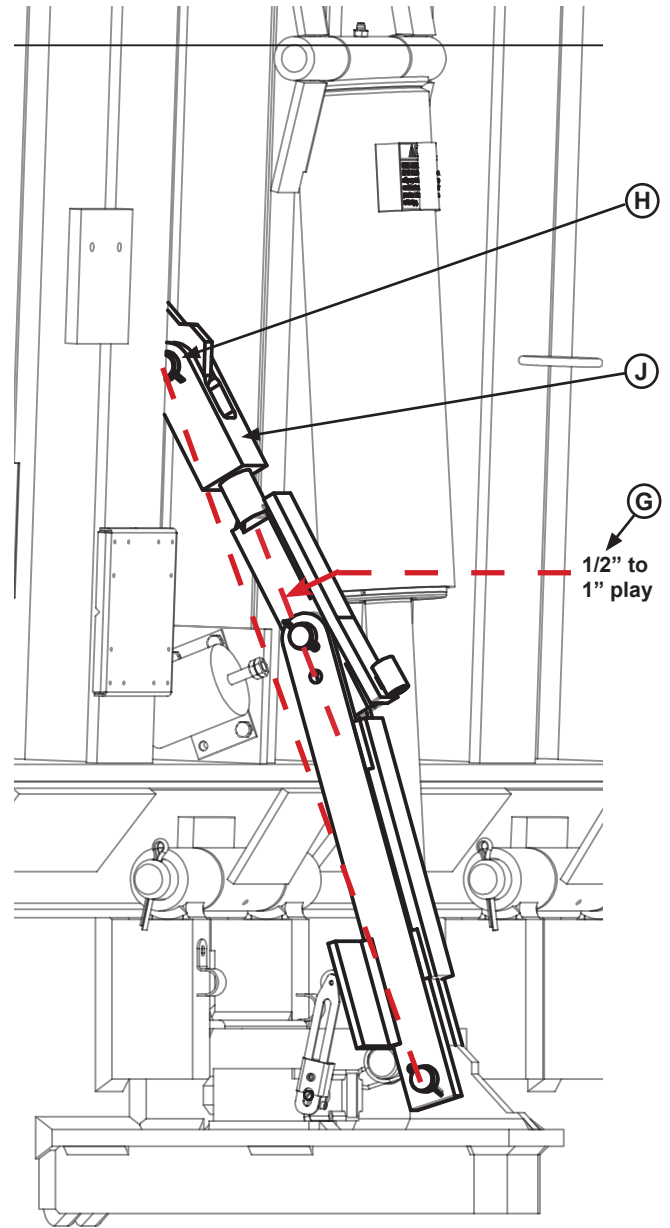

Figure 36
Note: When set properly, the storage prop will have approximately 1/2" to 1" of play (**G**) with the leveler in the stored position. See **Figure 36**.
5. Adjust the yoke (**J**) on the storage prop until the prop has between 1/2" (minimum) and 1" (maximum) of play with the yoke connected to the platform. See **Figure 36**.